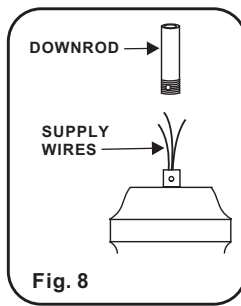
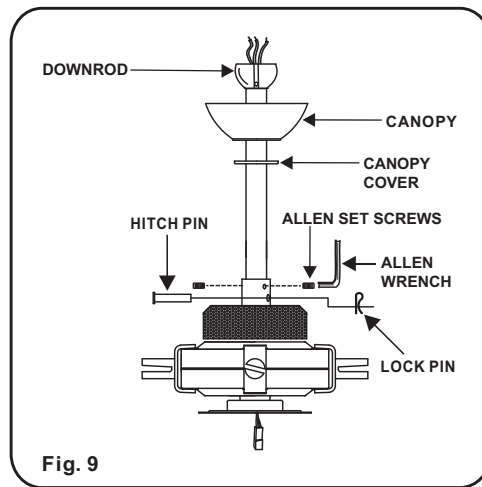

Fig. 8
Fig. 9
Step 4. Carefully feed fan wires up through the downrod. (Fig. 8) Thread Downrod into the Coupling and replace lock pin and hitch pin and secure with the Allen Set Screws previously loosened. Tighten Set Screws. (Fig. 9)
Step 5. Slip canopy cover and canopy onto downrod. (Fig. 9) Carefully reinstall hanger ball onto rod being sure that cross pin is in correct position, set screws are tightened and wires are not twisted.